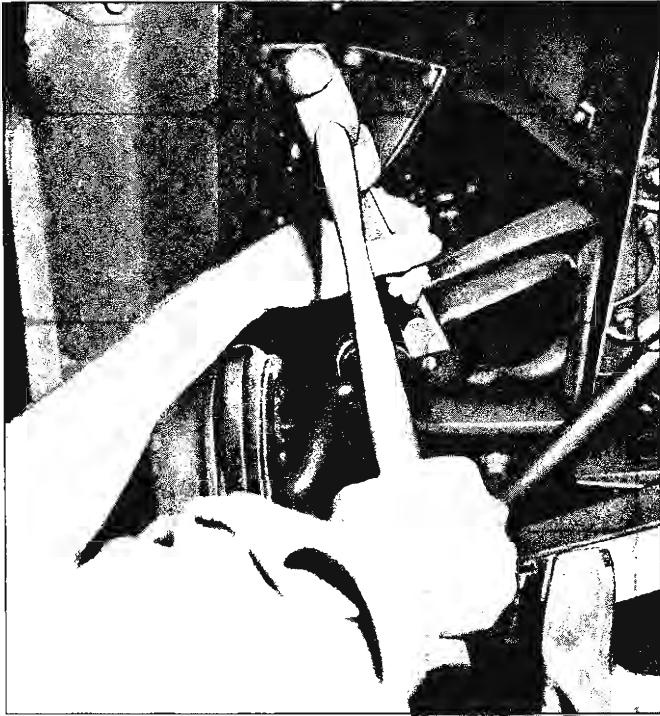

Fig. 39—Cutting Upper Ball Joint Rivet Heads—Chevy II
6. Using a large chisel, cut off the three ball joint retaining plate rivet heads (fig. 39). It may be necessary to drill out rivet heads before chiseling.